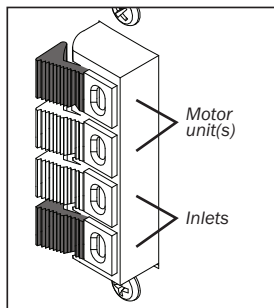

FIGURE 7
- Low Voltage Connections: the Wave has 4 low voltage connectors. Connect the vacuum inlets' low voltage wires to the two lower low voltage connectors, and the motor units' low voltage wires to the two upper connectors (figure 7).